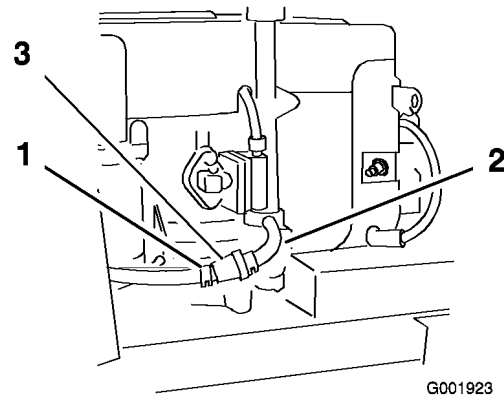

Figure 37
5. Close the fuel shutoff valve (Figure 37).
6. Squeeze the ends of the hose clamps together and slide them away from the filter (Figure 37).
8. Install a new filter and move the hose clamps close to the filter (Figure 37).
3. Close the fuel shutoff valve (Figure 37).
4. Loosen the hose clamp at the fuel filter and slide it up the fuel line away from the fuel filter (Figure 37).
5. Disconnect the fuel line from the fuel filter (Figure 37).
Note: Allow gasoline to drain into a fuel container can or drain pan (Figure 37).
7. Install the fuel line onto the fuel filter. Slide the hose clamp close to the fuel filter to secure the fuel line (Figure 37).